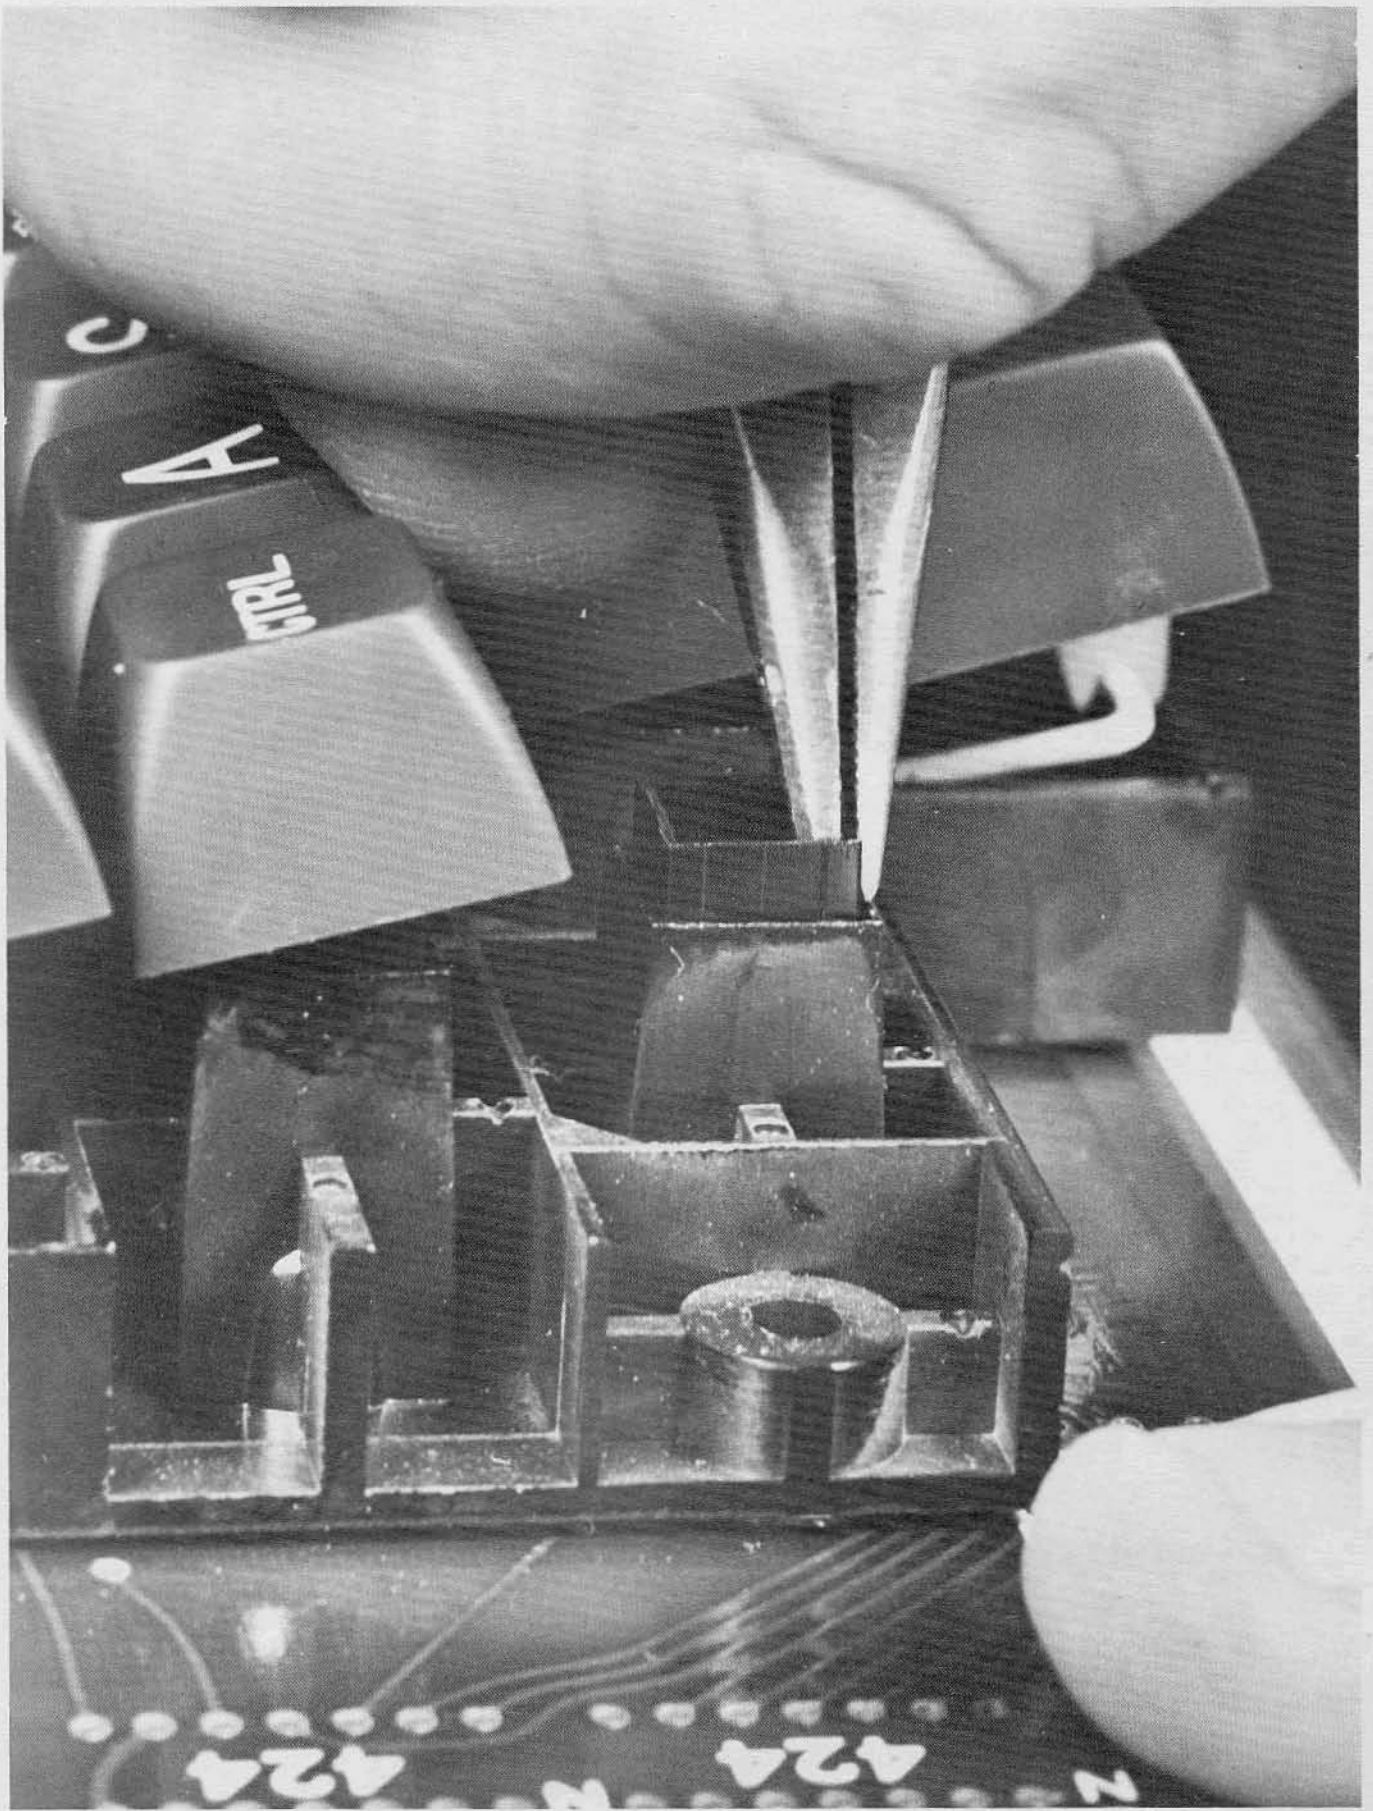

Figure 5-5.
- d. With the pliers, firmly grasp the plunger in the corner (see figure 5-5). Pull straight up with a firm pull.